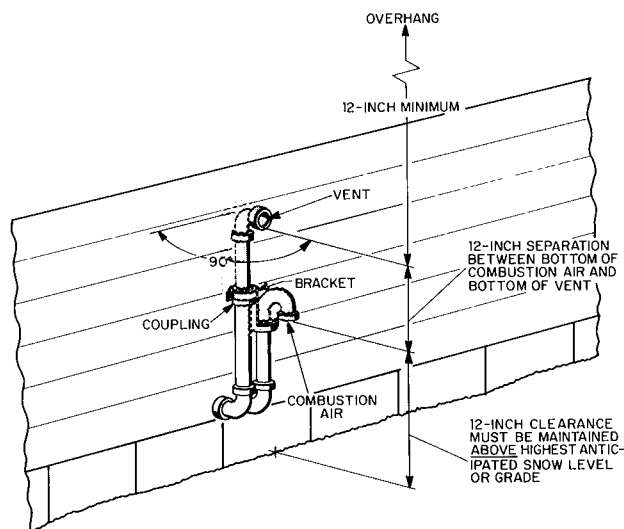
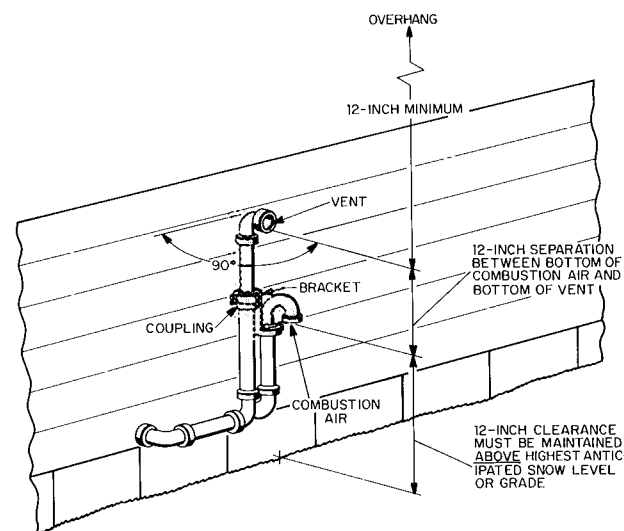

Fig. 6 — Sidewall Termination Below Snow Level or Too Close to Grade (Preferred)
Fig. 7 — Sidewall Termination Below Snow Level or Too Close to Grade (Option)
NOTE: The arrangement in Fig. 6 is preferred. The arrangement shown in Fig. 7 is an option for the vent pipe only.
4. Loosely install U-fitting and bracket as shown in Fig. 6. Position U-fitting so open end is against structure wall
5. Loosely install vent pipe assembly in coupling as shown in Fig. 6 or 7.
6. Check required dimensions as shown in Fig. 6 or 7.
8. Install bracket as shown in Fig. 6 or 7.